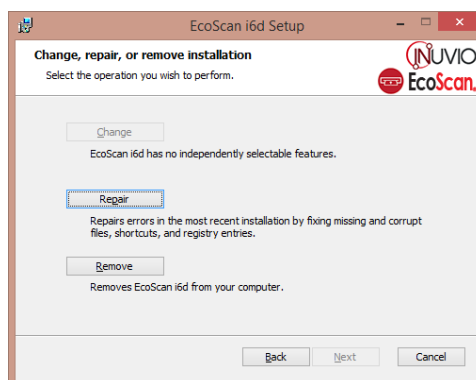

Fig. 6
b) The second installation process will display a different setup window (Fig. 6).